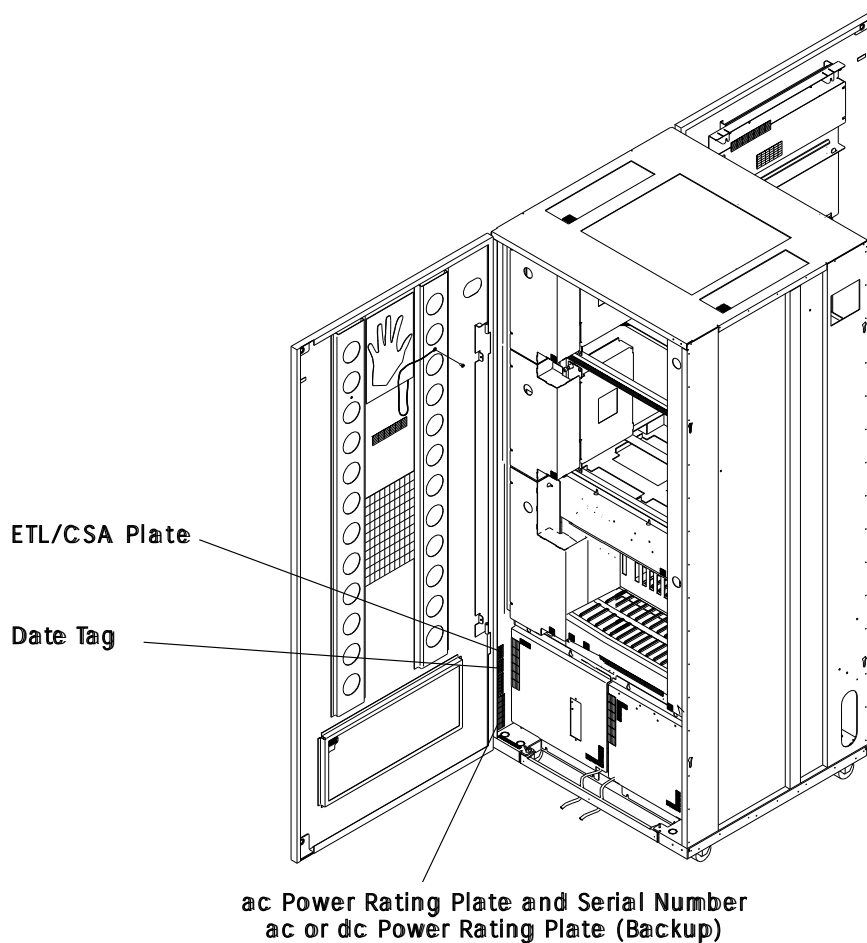

Figure 2-1. 3746-950 Power Rating Plate (Rear View)
- Step 3. ____ Open the rear door. Locate the power rating plate (see Figure 2-1). **Check that the 3746-950 Basic AC power and the Optional AC power rating plate data are consistent with the customer's available voltage AC and the frequency.**
- Step 5. ____ Check that the serial number stamped on the frame is the same as on the serial number plate (see Figure 2-1 for location).
2. ____ Remove the CBC covers (see Figure 2-1 on page 2-2).